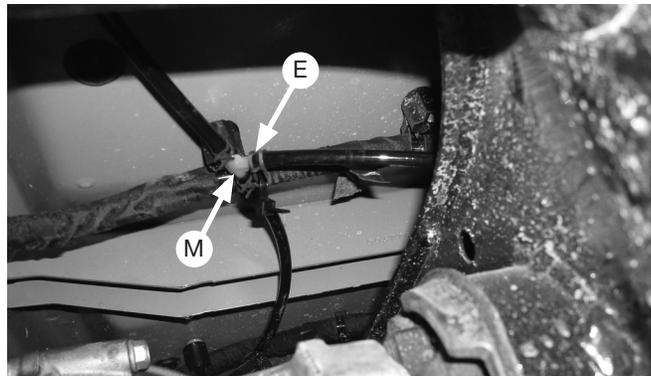

Fig. 21
20. Follow the air line installation instructions and route the air line up and to the middle of the rear end crossmember. If you are running a single fill line, install a tee (M) where the wiring harness is running back to the rear of the vehicle. Whether it be a single or dual air line, secure the tee and air line/air lines to the wiring harness using a zip tie (fig. 21).